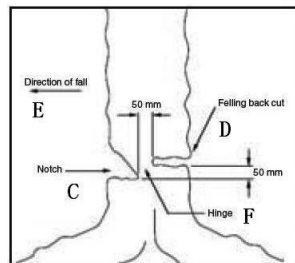

Fig. 2B
⚠ WARNING: Never walk in front of a tree that has been notched. Make the felling cut (D) from the other side of the tree and 3-5cm above the edge of the notch (C) (Fig. 2B).